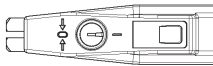

Fig. 1
- 7.4. The lockout device¹⁰ of the battery-operated soldering gun¹ can be released by turning the locking mechanism to position "I" by means of the attached screw driver¹¹ (see Fig. 1).